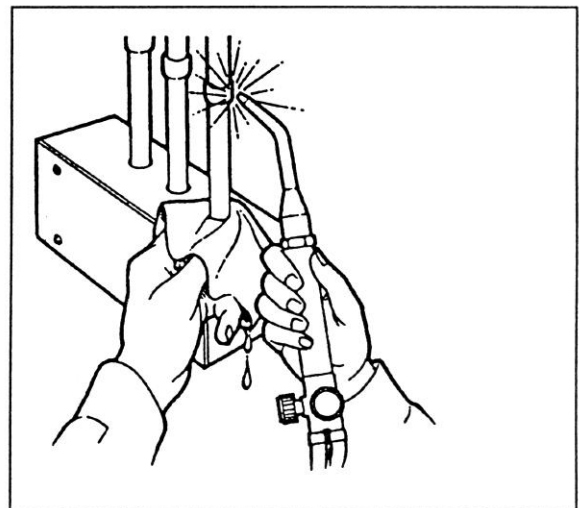

Figure 8 – Minimize Overheating Of Valve
- Wrap the pigtail with a damp cloth or use a commercially available heat sink to minimize over-heating (see Figure 8).